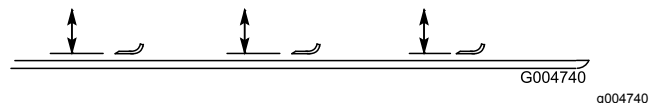

Figure 115
- Rotate the blade until the ends face forward and backward and measure from the inside of the mower deck to the cutting edge at the front of the blade (Figure 115).